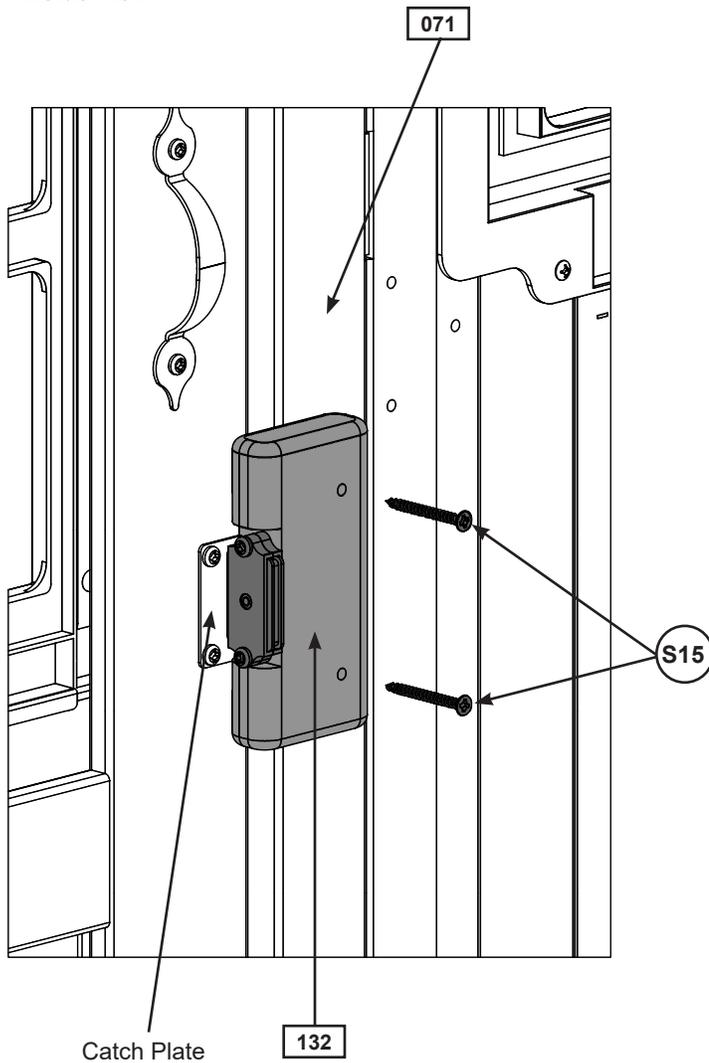

Fig. 13.9
F: In the notched out opening of (132) Door Stop attach the Magnetic Catch using 2 (S18) #6 x 1" Wood Screws. (fig. 13.9) **Important: Use a hand held screw driver and DO NOT over tighten.**